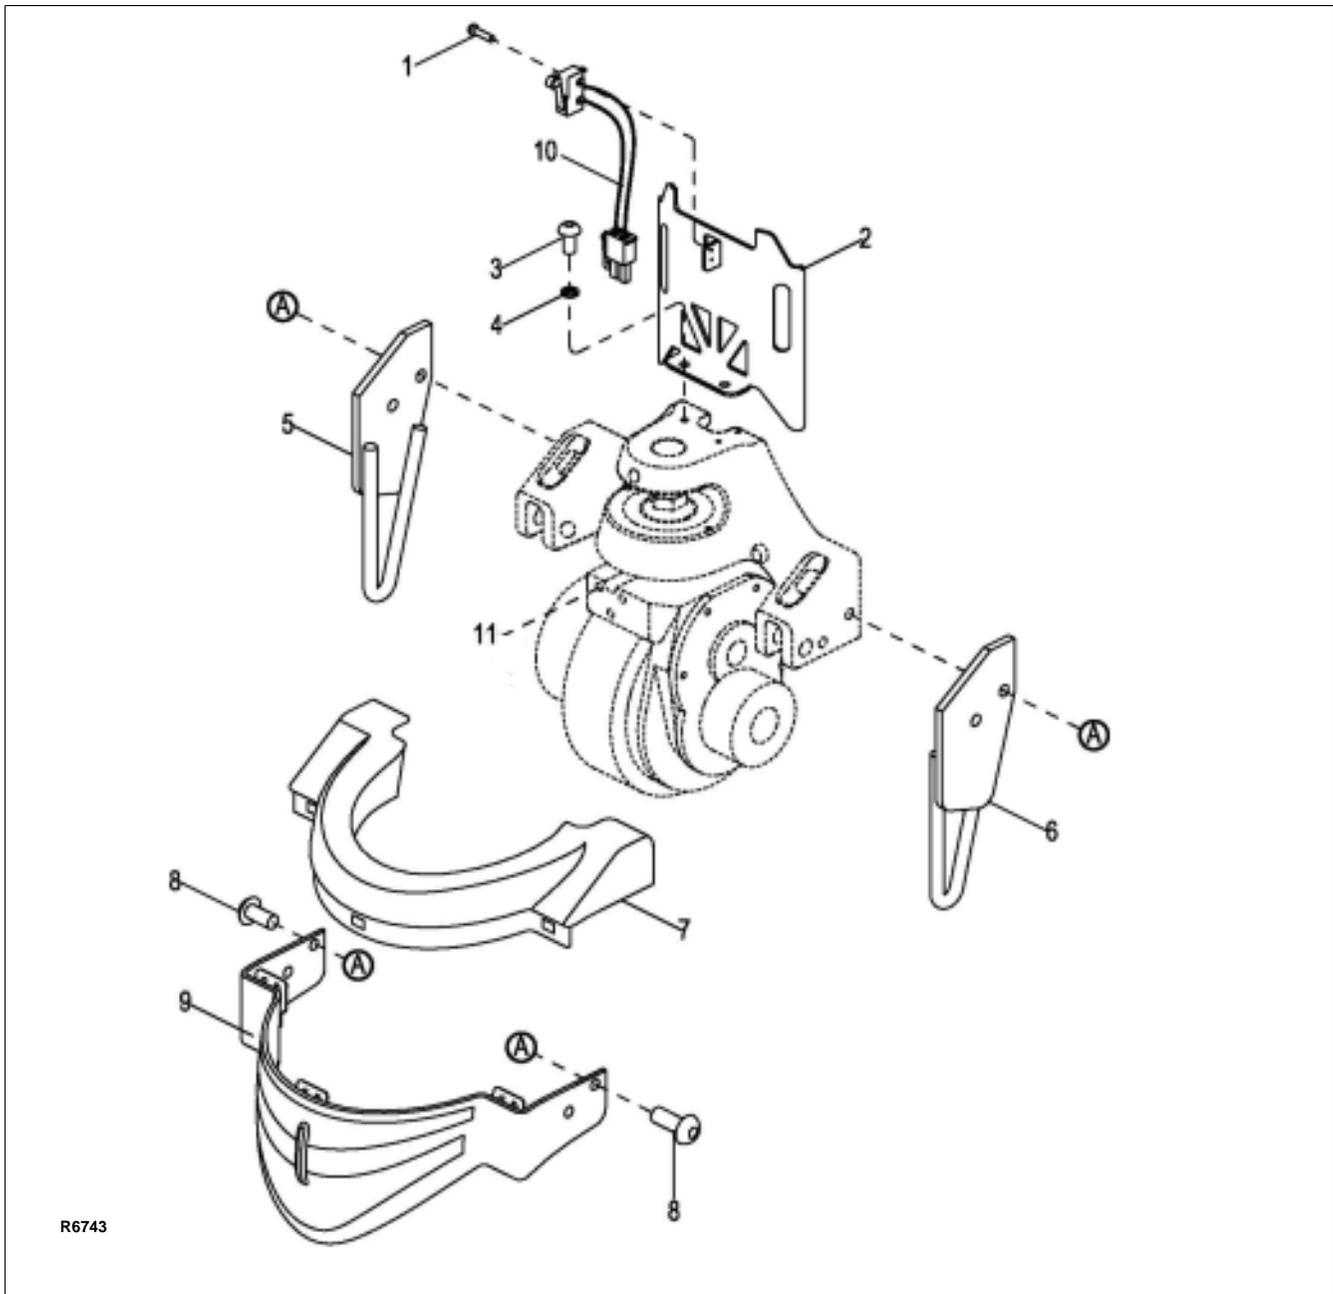

Figure 5-7 Compartment
2. Lift cover (7, Figure 5-7) up and off cover (9).
3. Remove four screws (8), cover (9) and skids (5 and 6) from transmission (11).
1. Position skids (5 and 6, Figure 5-7) and cover (9) on transmission (11) and secure with four screws (8).
2. Position cover (7) on top of cover (9) engaging the clips.